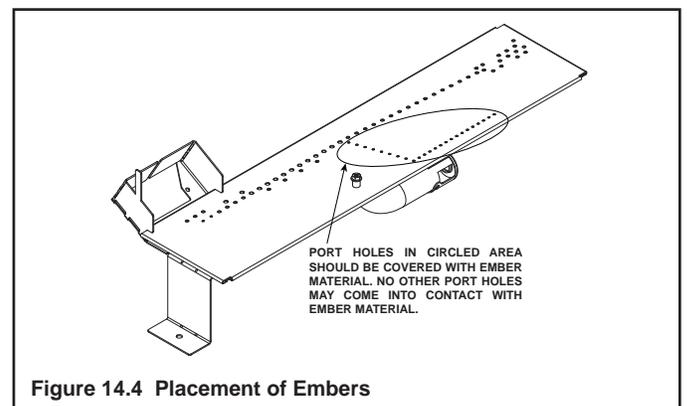

Figure 14.4 Placement of Embers
- Embers CANNOT be placed directly over ports. See Figure 14.4 for the only exception to this guideline. Care should be taken not to cover the lighting trail of ports (from back to front).
- Some of the small port holes should be covered with ember material. See Figure 14.4 for detail.